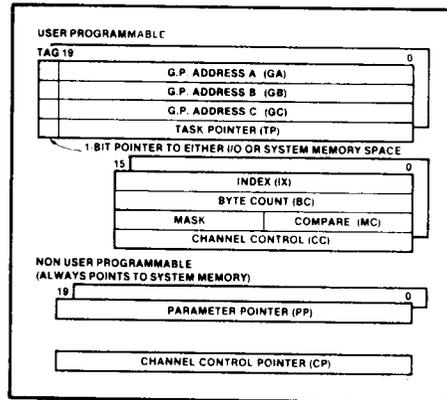

Figure 6. Register Model
The 8089 maintains separate registers for its two I/O channels as well as some common registers (see Figure 6). There are sufficient registers for each channel to sustain its own DMA transfers, and process its own instruction stream. The basic DMA pointer registers (GA, GB—20 bits each), can point to either the system bus or local bus, DMA source or destination, and can be autoincremented. A third register set (GC) can be used to allow translation during the DMA process through a lookup table it points to. The channel control register, which may be accessed only by a MOV, or MOVI instruction, determines the mode of the channel operation. Additionally, registers are provided for a masked compare during the data transfer and can be set up to act as one of the termination conditions. Other registers are also provided. Many of these registers can be used as general purpose registers during program execution, when the IOP is not performing DMA cycles.